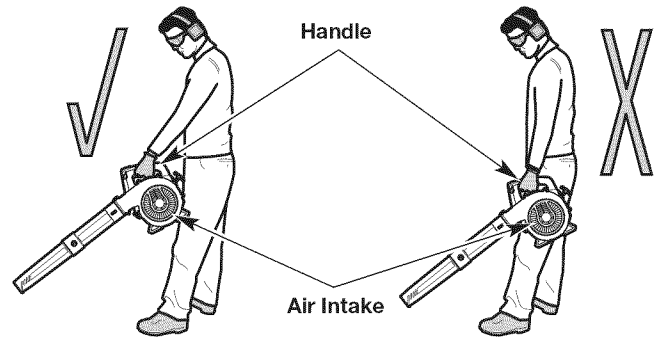

Fig. 6
- Stand in the operating position (Fig. 6). Stand up straight. Do not bend over.
- Hold the unit in front of, and away from, your body (Fig. 6).
WARNING: To prevent serious personal injury or damage to the unit, **DO NOT** hold the unit at your side (Fig. 6). The engine may be extremely hot. **DO NOT** block the air intake.